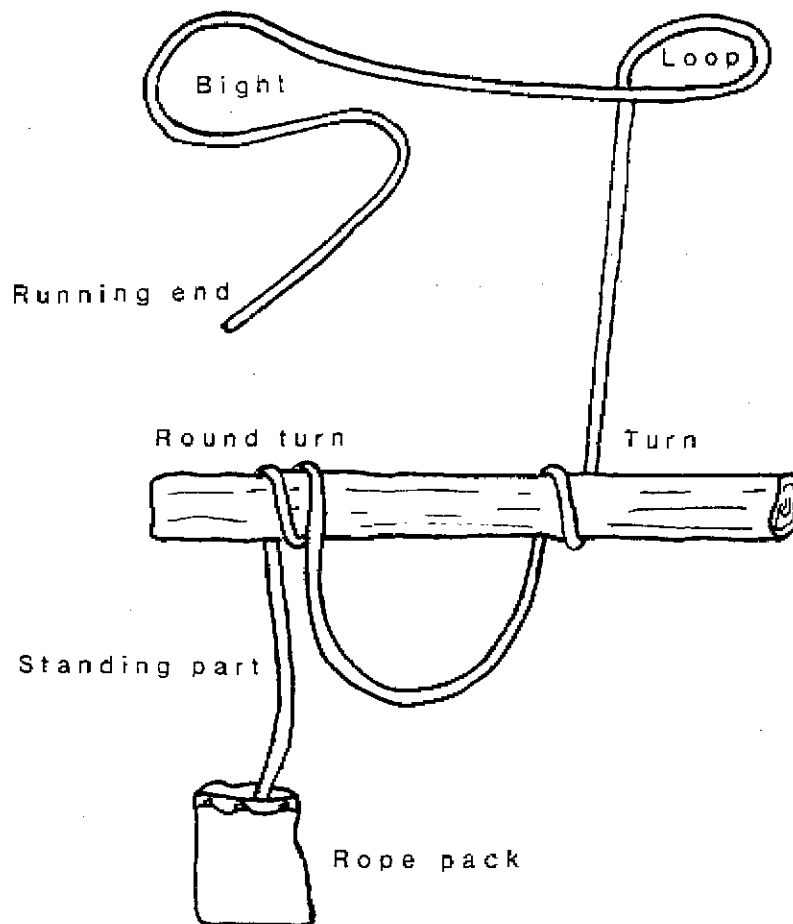

Figure 4:1
- 4.03 In order to standardise the language and names associated with roping and rope work, terminology as depicted in Figure 4:1 is used.